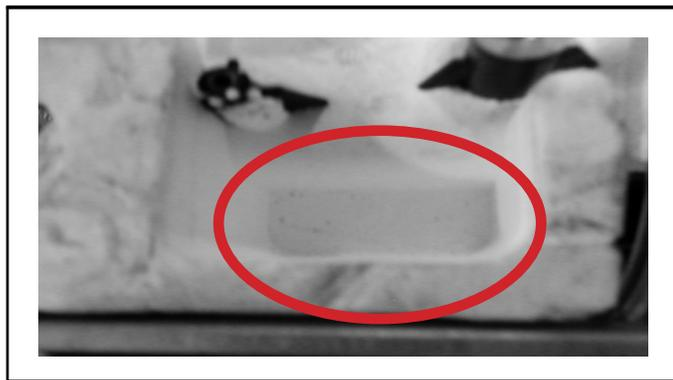

Figure 14. Typical Outside Air Supply Channel with Styrofoam Plug Intact
3. Make sure the outside air supply channel is clear of styrofoam and debris. It may be necessary to cut out or punch through a styrofoam plug. See Figures 14 and 15.